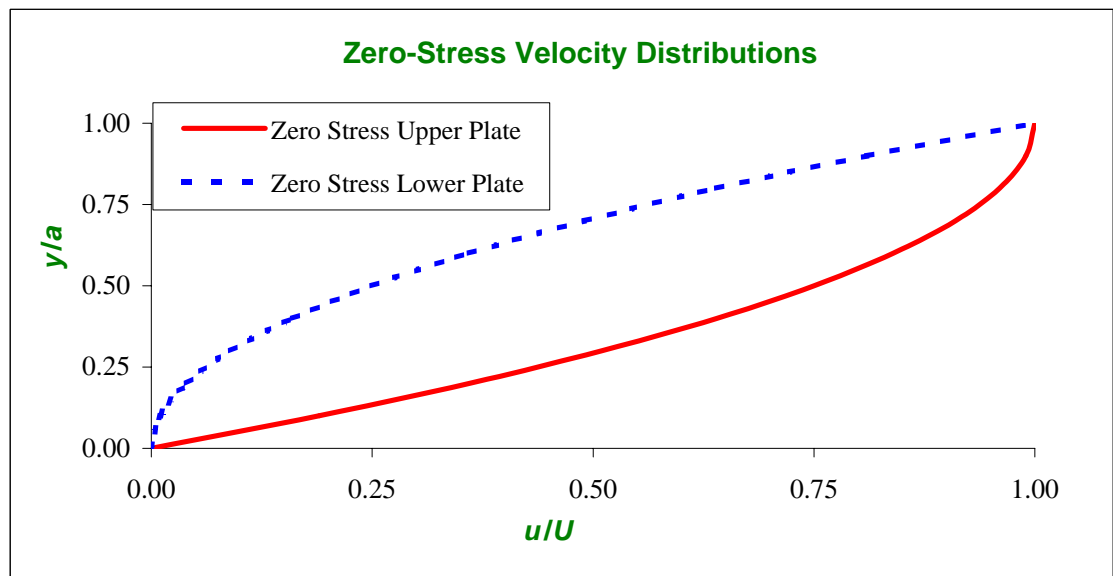

**Fig. 8.6** Dimensionless velocity profile for fully developed laminar flow between infinite parallel plates: upper plate moving with constant speed,  $U$ .
**8.25** The dimensionless velocity profile for fully developed laminar flow between infinite parallel plates with the upper plate moving at constant speed  $U$  is shown in Fig. 8.6. Find the pressure gradient  $\partial p/\partial x$  at which (a) the upper plate and (b) the lower plate experience zero shear stress, in terms of  $U$ ,  $a$ , and  $\mu$ . Plot the dimensionless velocity profiles for these cases.